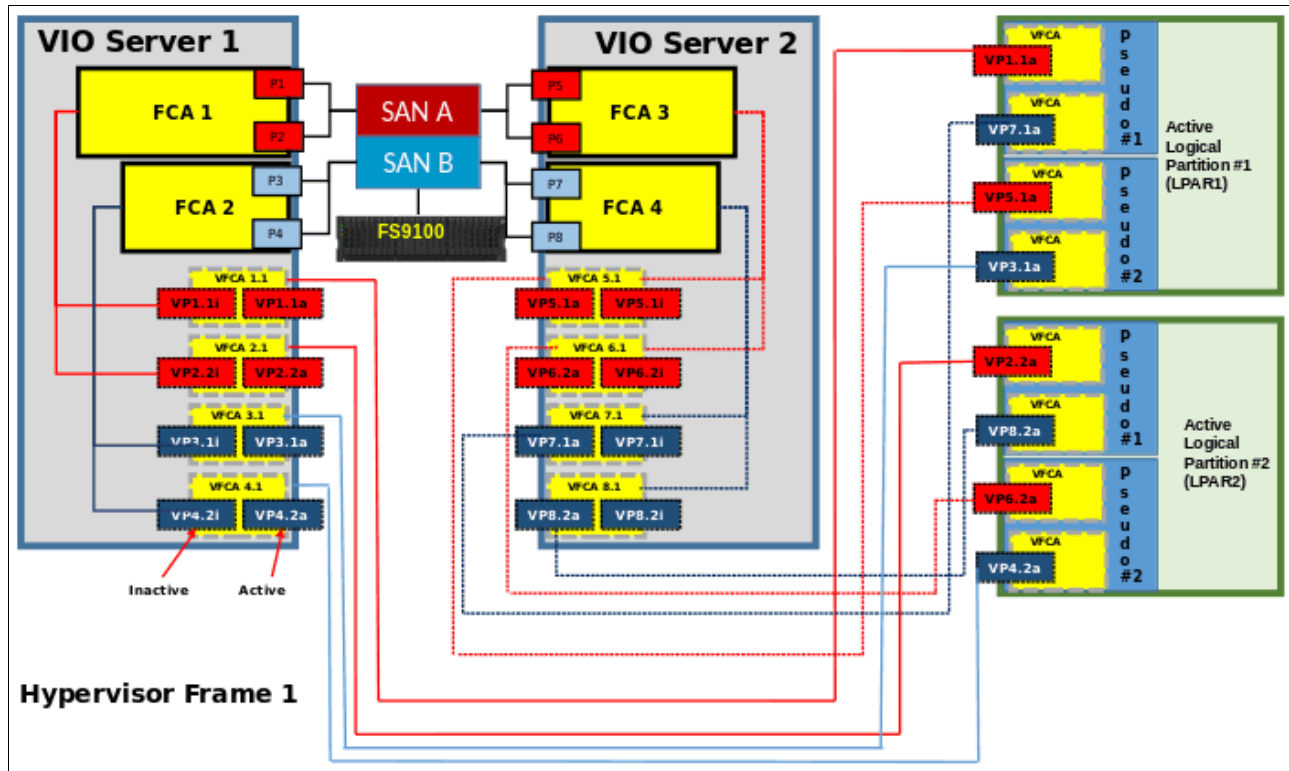

Figure 2-15 LPARs SAN connections
- Create a pseudo host in IBM Spectrum Virtualize/Storwize host definitions that contain only two virtual WWPNs, one from each fabric as shown in Figure 2-15.
Figure 2-15 shows a correct SAN connection and zoning for LPARs.